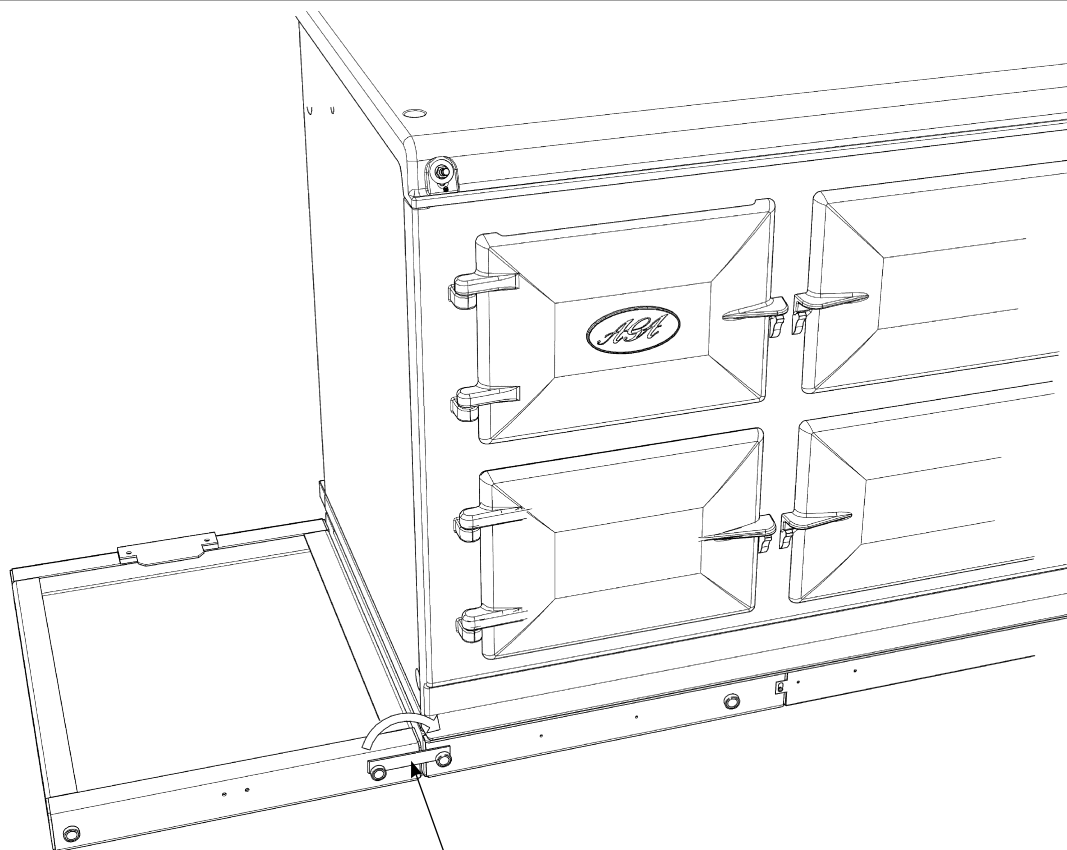

Fig. 3.6
5. Front jointing bracket can now be hooked into place over the two pot magnets. This will latch the two plinths together. (**Fig. 3.6**)